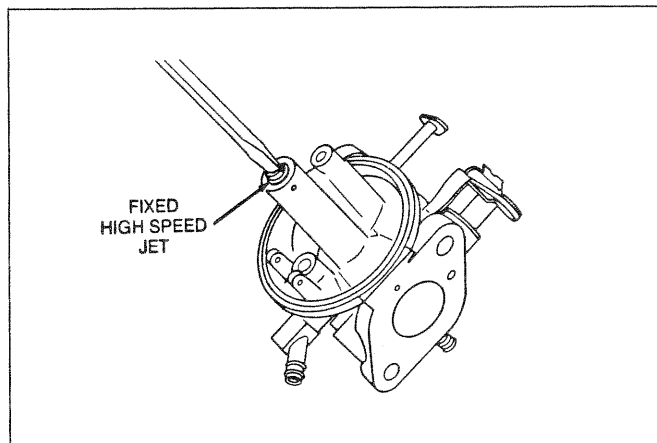

Figure 139. High Speed Nozzle and Jet Installation
- Install high speed nozzle and fixed high speed jet (Figure 139).